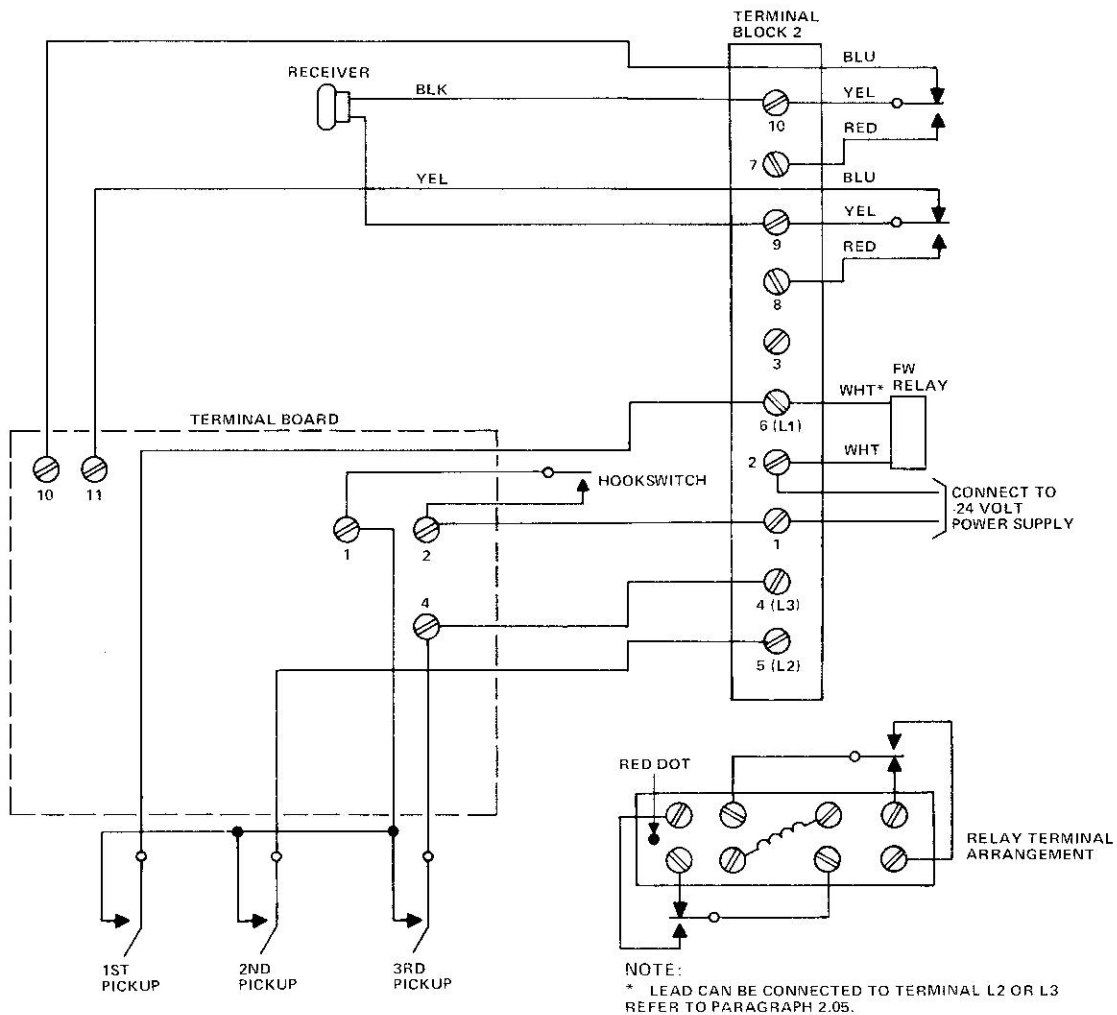

Figure 2. Modification for Two-Wire to Four-Wire Service (One Line).
2.04 To provide two-wire to four-wire service on any one of the three available pickup keys, an H-888578-1 modification kit is used. This kit consists of a small enclosed relay (FW) and hardware. This kit is used with an external 24-Vdc power supply (Figure 2). A dial or Touch Calling Unit (TCU) version Type 187 telephone set can be modified to provide two-wire to four-wire service. When operated the FW relay transfers the handset receiver connection from the two-wire network to separate pairs. The busy lamp contacts of the pickup selected for four-wire operation are used to operate the FW relay when it is connected to the telephone set. The external power supply provides voltage to the FW relay and to light the busy lamp.
2.05 To modify the telephone set for two-wire to four-wire service, refer to Figure 2 and proceed as follows: